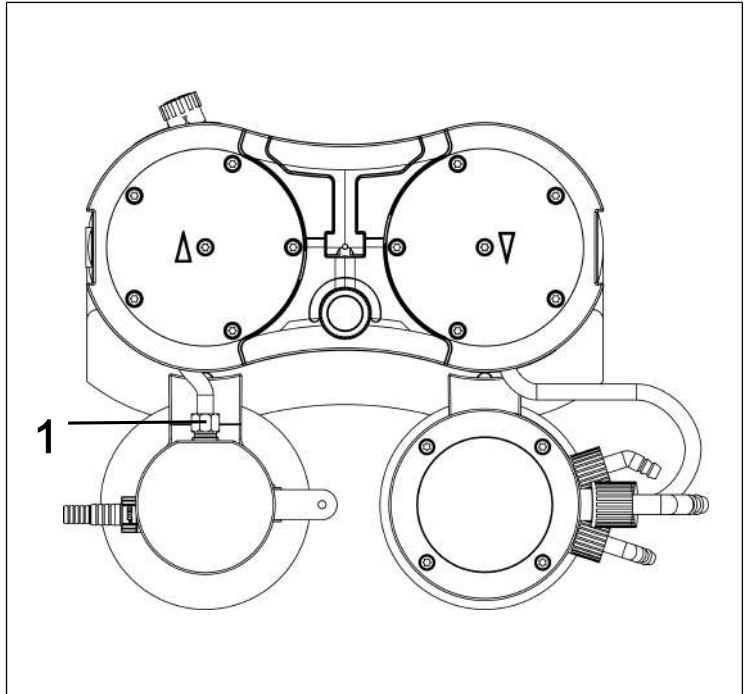

Fig.11: Loosen hose connection
2. Loosen the union screw of the hose connection (**1**/Fig. 11) from the vacuum system component.
i If necessary, use a size 14 open-end wrench to loosen the union screw of the separator hose connection (**1**/Fig. 11).
10. Screw in the union screw of the separator hose connection (**1**/Fig. 11) on the separator connection as far as it will go.
- i** If necessary, use a size 14 open-end wrench to tighten the union screw of the separator hose connection (**1**/Fig. 11)